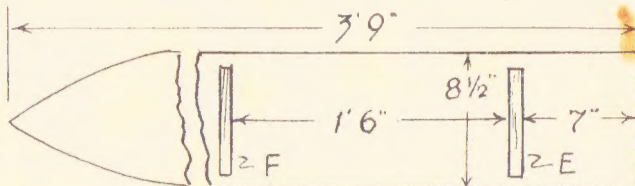

Fig. 2 - The ironing board, with position of cross pieces
The ironing board, Fig. 2, is cut to the shape shown from a single board of $\frac{3}{4}$ in. deal. Where shown at (F) screw across a piece of wood, $\frac{3}{4}$ in. thick and $1\frac{1}{2}$ ins. wide, just 7 ins. in length. The bar (E) to which the outer legs are pivoted, is screwed across also, where shown.